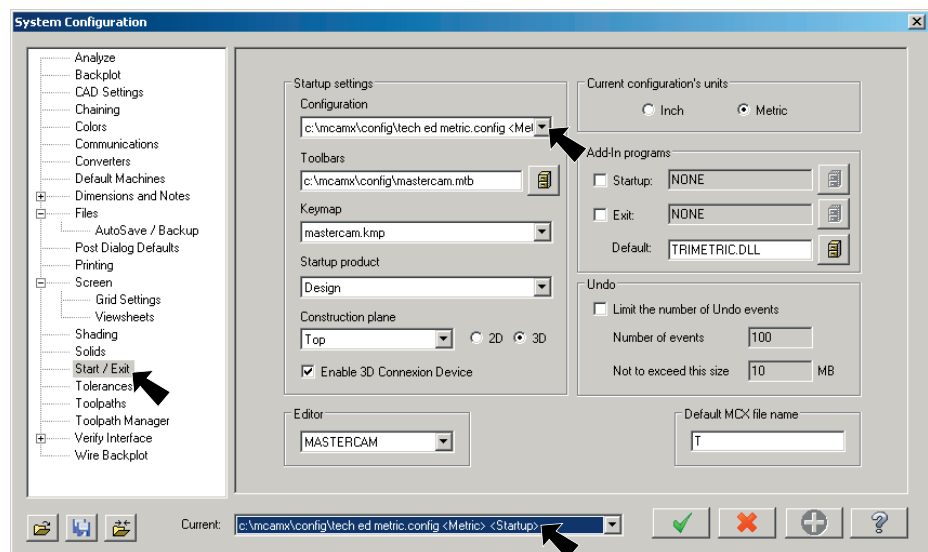

Fig. 4
- Step 2. Click **Start/Exit** in the list of configuration topics on the left, **Fig. 4**.
- Step 3. Set **Startup setting Configuration** to **TECHED METRIC (Metric)**, **Fig. 4**.
- Step 4. Set **Current** to **TECHED METRIC (Metric)**, **Fig. 4** and click OK .